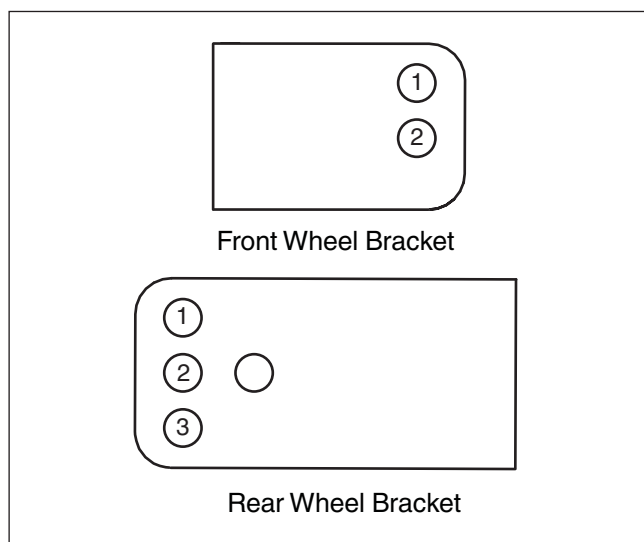

Figure 29
4. Assemble gauge wheels in the hole on the gauge wheel bracket that positions the gauge wheel closest to the ground without touching the ground (see **Figure 29 and Table below**).
5. Secure the gauge wheel (4), sleeve (3), and bolt (2) on bracket with nut (1).